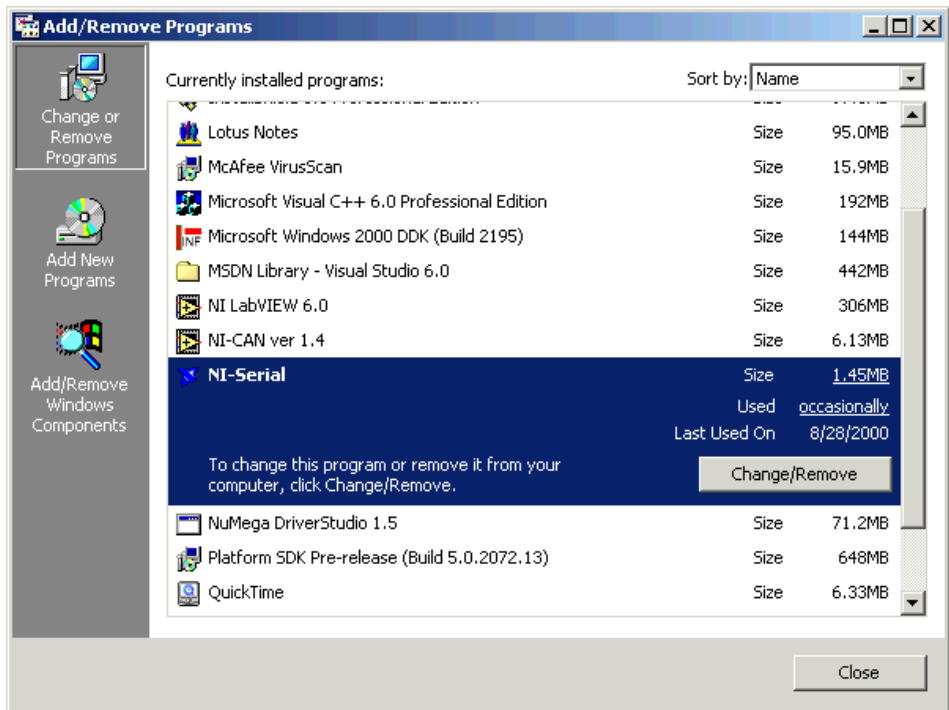

Figure B-2. Add/Remove Programs Dialog Box
2. Double-click on the **Add/Remove Programs** icon. A dialog box similar to the one shown in Figure B-2 appears. This dialog box lists the software that you can uninstall.